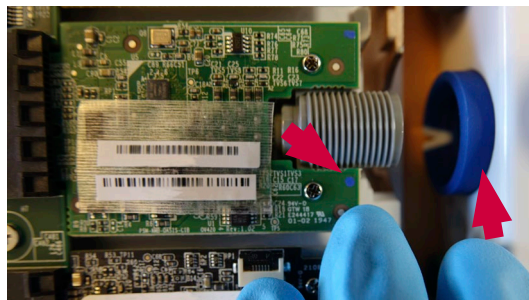

Figure 19 The colour indication on the VDI board must match the colour ring
e) Ensure that the colour ring on the back casing is the same colour as the indication on the VDI board (Figure 19)
When remounting the back casing, ensure that the coloured spots on the VDI boards (Figure 19) are matching the colours of the colour rings at which they are placed.